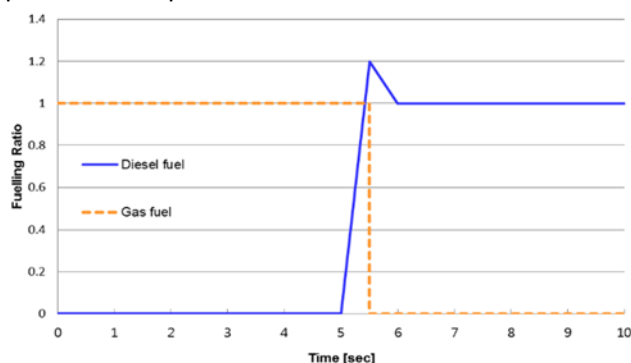

Figure 5.8 Fuel mode changeover from gas to diesel
- ✓ Changeover takes only a second (Refer to Figure 5.8)